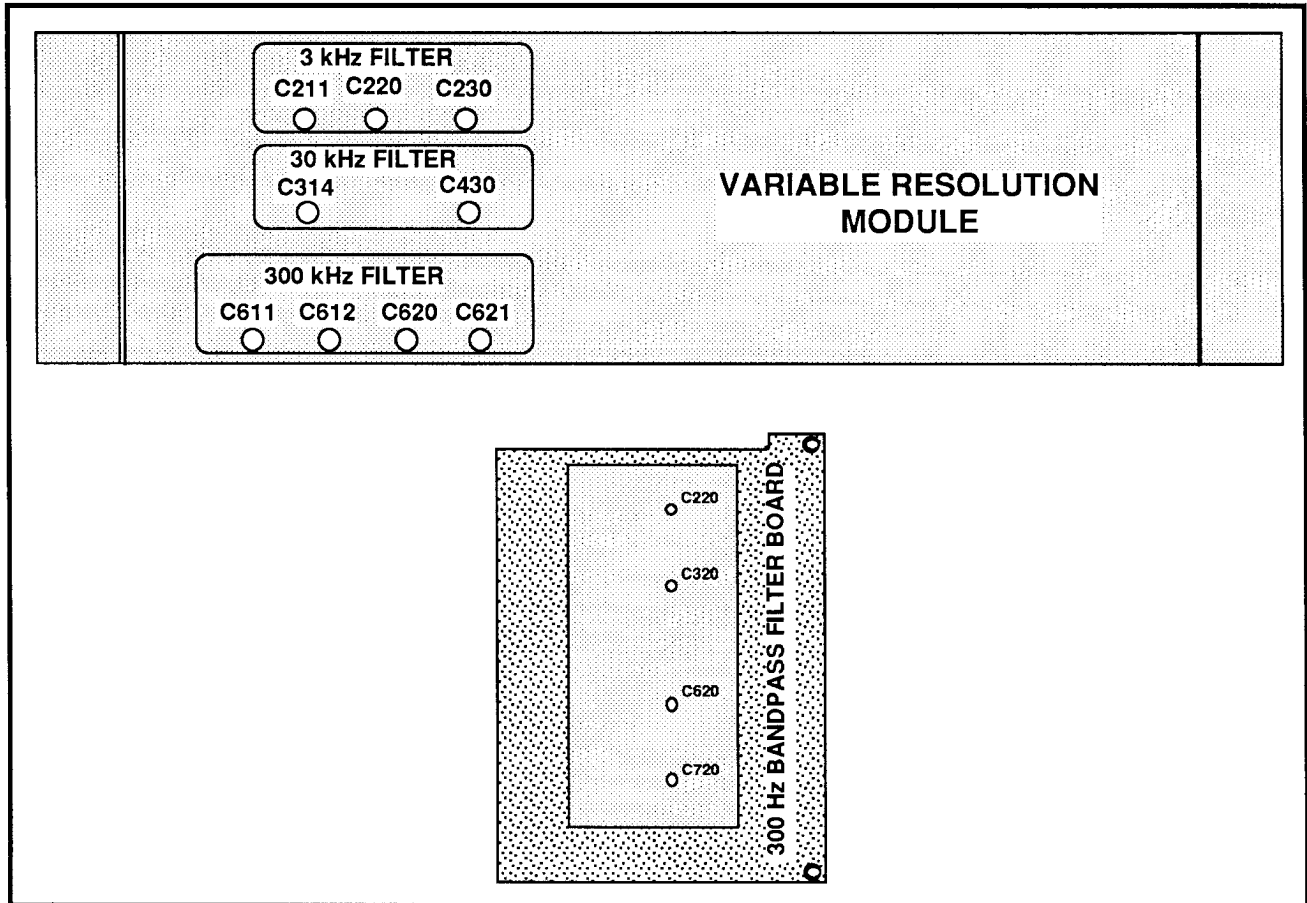

Figure 4-8. Variable Resolution module and 300 Hz Bandpass Filter board adjustment locations.
(5) Save the display in one of the DISPLAY STORAGE registers.
(6) Reset the RES BW to 300 kHz.
(7) Adjust C611, C612, C620, and C621 on the VR Filter Select board (Figure 4-8) for highest amplitude, best filter shape, and centering.
(8) Set the reference level for a full-screen display, and enable the VID FLTR.
(9) Enable bandwidth mode by pressing APPL 9 0 and entering –6 dB, then pressing BKSP and 0.
(10) Check bandwidth shape factor. The bandwidth at the 60 dB down point must not exceed 7X the bandwidth at the 6 dB down point.
(11) Check that the filter amplitude is –20 dBm, ±4 dB.
(12) Disconnect the signal from the RF INPUT.
(5) Adjust C314 and C430 on the VR board (Figure 4-8) for highest amplitude and best filter shape.
(6) Set the reference level for a full screen display, and enable the VID FLTR.
(7) Enable bandwidth mode by pressing APPL 9 0 and entering –6 dB, then pressing BKSP and 0.
(8) Check bandwidth shape factor. The bandwidth at the 60 dB down point must not exceed 7X the bandwidth at the 6 dB down point.
(9) Check that the filter amplitude is –20 dBm, ±4 dB.
(10) Disconnect the signal from the RF INPUT.
(5) Adjust C211, C220, and C230 on the VR Filter board (Figure 4-8) for highest amplitude and best filter shape.
(6) Set the reference level for a full-screen display, and enable the VID FLTR.
(7) Enable bandwidth mode by pressing APPL 9 0 and entering -6 dB, then pressing BKSP and 0.
(9) Check that the filter amplitude is -20 dBm, ± 4 dB.